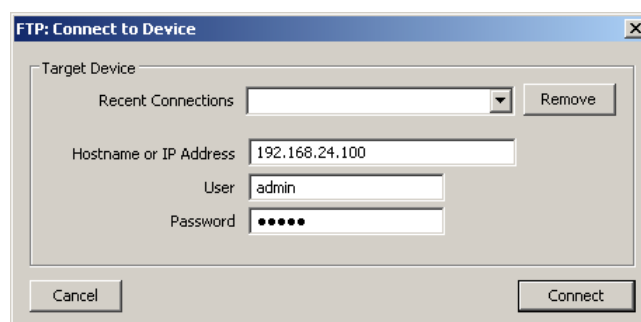

Figure 126: FTP connection dialog.
2. Select the menu: Operations → Connect to Gateway Device → FTP. This opens the FTP connection dialog as shown in Figure 126.